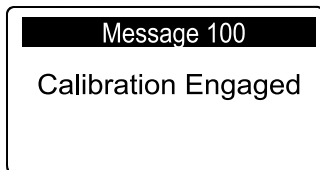

Figure 68
**Note:** The CALIBRATION ENGAGED message displays (Figure 68), and the coring head slowly lowers.